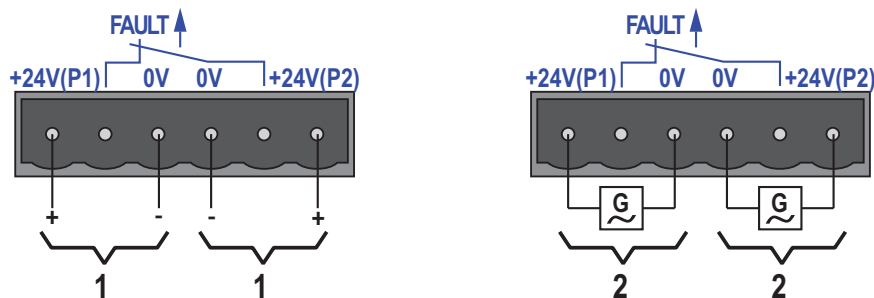

Figure 18: Connecting the supply voltage at the 6-pin terminal block
You can choose between DC or AC voltage when connecting the supply voltage. You use the +24V and 0V pins to connect the AC voltage (see figure 18).
- ▶ The signal contact (“FAULT”, for pin assignment of terminal block, see figure 18) monitors the functioning of the device, thus enabling remote diagnostics. You can specify the type of function monitoring in the Management.